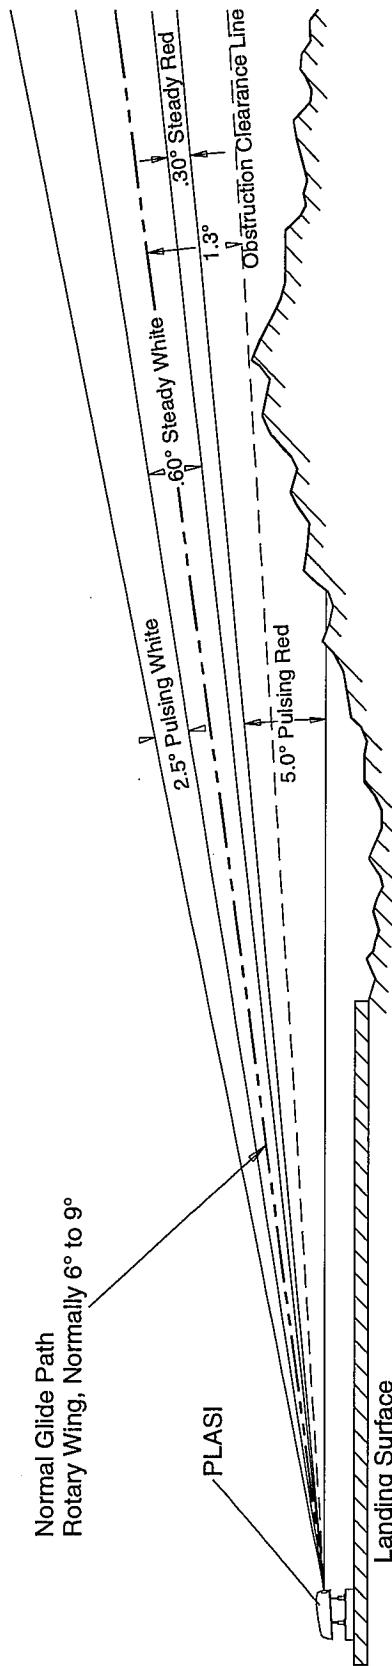

Figure 3 MINI-PLASI Signal Projection (Helicopters)
B. For use with helicopters: **(Figure 3)**